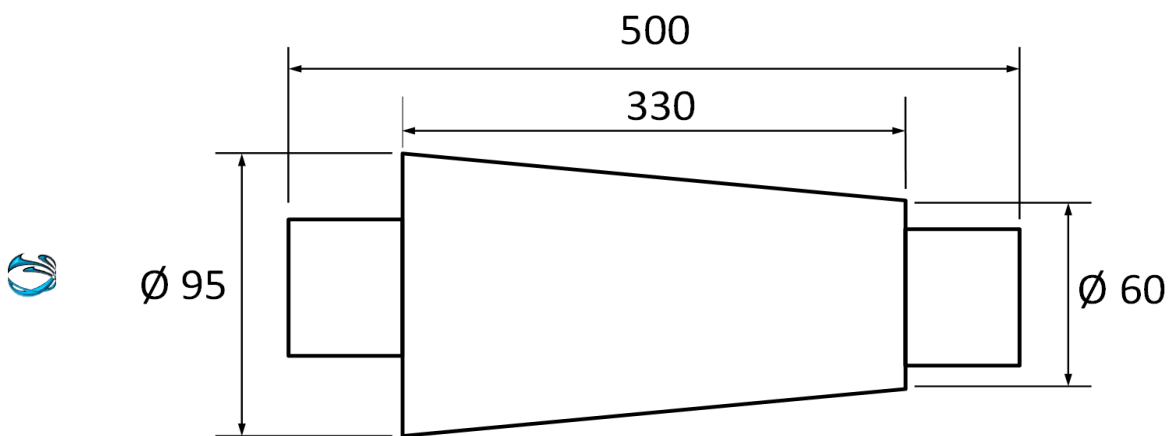

FIGURE 4
11.4 FIGURE 4 shows a tapered shaft which is to be turned to the dimensions given.